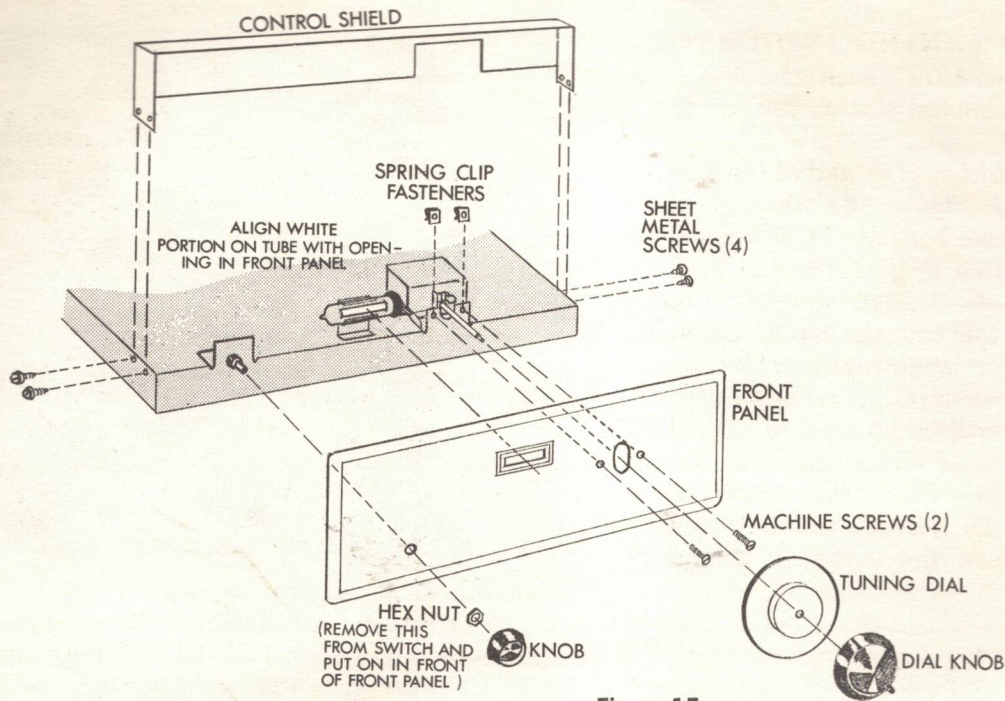

Figure 15
Place a spring clip fastener over each of the holes on either side of the chassis cut out next to the tuning shaft. Slide the clips on from each side and be sure that the fasteners are mounted with the smooth side on the panel side of the chassis. Remove the nut from the Selector Switch (SW-1) and mount the panel over the shaft and up against the chassis. Thread the brass hex nut onto the selector switch, finger tight. (See Figure 15.)
Insert the two flathead machine screws (H-MS-440 x 7/16F) thru the pair of holes in the front panel and screw them firmly into the spring clip fasteners. Tighten the hex nut on the switch firmly being careful not to scratch the panel. (See Figure 15.)
- AM2-9 Mount the large metal control shield (E-CS-17) as shown in (Figure 15), using four H-SMS-6X1¼ HW sheet metal screws.